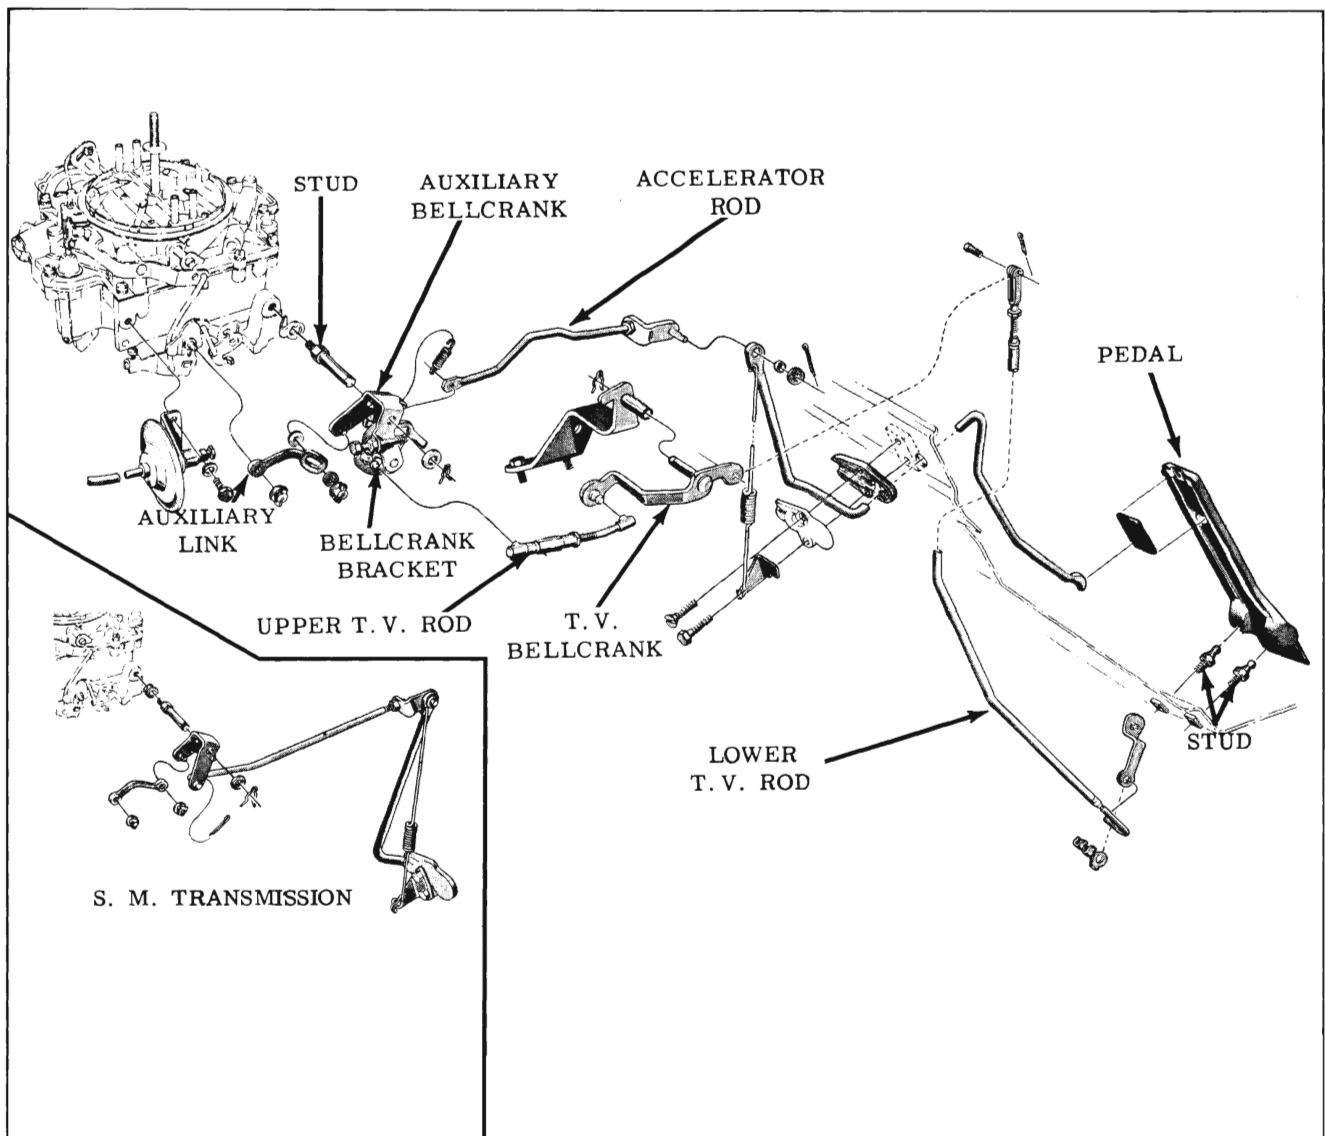

Fig. 3-329 4GC Throttle Linkage
3. Lower car and disconnect upper T.V. rod from T.V. bellcrank. (Fig. 3-329)